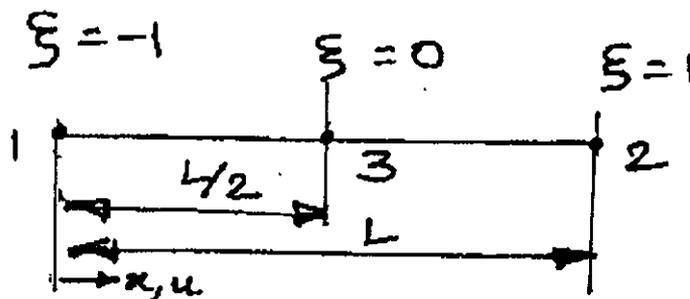

Fig. 4
13. (a) (i) Determine the 3 by 3 element stiffness matrix $[k]$ of the bar element shown in Fig.4 having constant AE . Use an order 2 Gauss quadrature rule. (12)